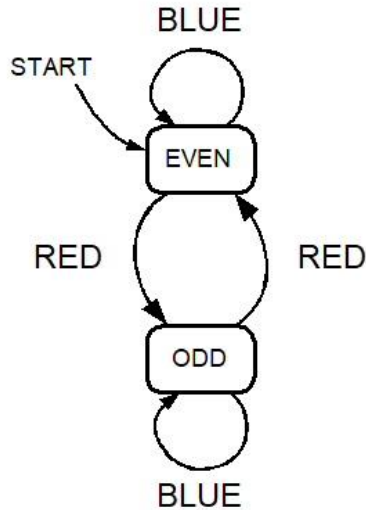
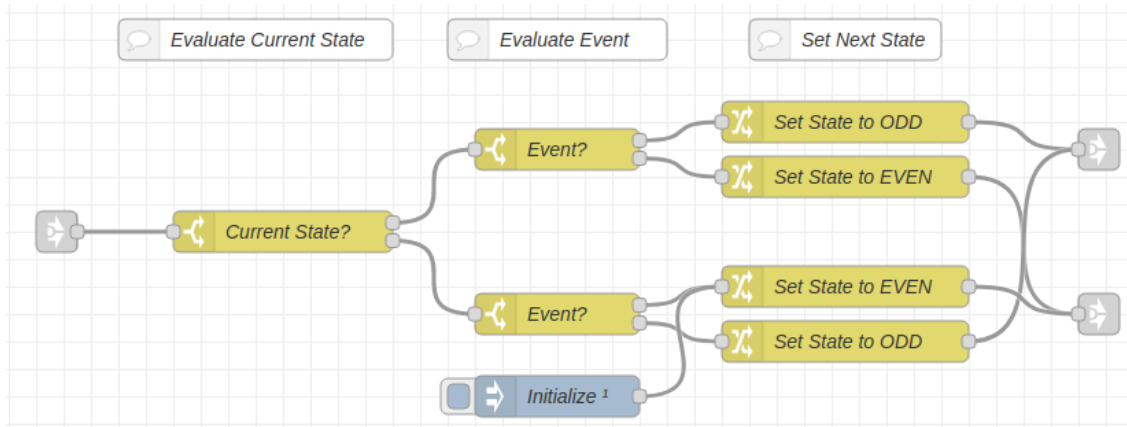

Figure 6-28: Finite State Machine Diagram for Bottle Counter
Figure 6-30: Bottle Counter - Finite State Machine
If you were to draw Figure 6-28 out in chalk on the sidewalk you could be the key element in the finite state machine, namely the keeper of the state. Start out by jumping on to the block labeled EVEN because when the production line starts moving no bottles have been detected and zero is, after all, an even number. Suppose someone standing by the production line yells “Red” or “Blue” each time a bottle goes by? If you hear “Red” you look down at your feet and jump to where the red arrow points. If they yell blue, you just jump up in the air because the arrow points to the same state bubble you are standing on. When someone asks you whether the current count is even or odd all you need to do is look down at your feet and report the name of the state you are standing in. Simple enough?
- A finite state machine flow to implement Figure 6-28.
Look back at Figure 6-28. Notice that whenever a blue bottle goes by the state does not change. And in Figure 6-30 two of the nodes that set up the next state based on the event being “BLUE” are redundant because they simply set the new state to the same value as the old state. Therefore, these nodes can be removed from the finite state machine flow as shown below. Note: it is necessary to move